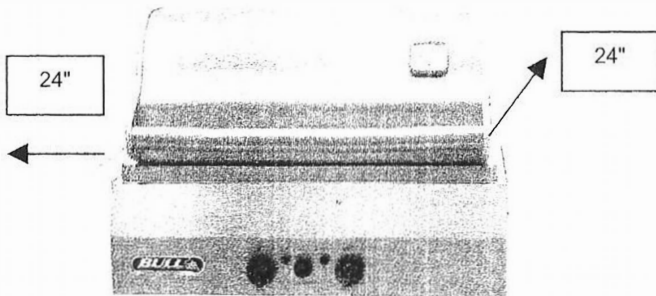

FIGURE 1
THIS APPLIANCE SHOULD NEVER BE PLACED CLOSER THAN TWENTY-FOUR (24) INCHES FROM ANY SIDE OR BACK, TO ANY COMBUSTIBLE CONSTRUCTION OR MATERIAL. (FIGURE 1,2 & 3)
Your Bull Outdoor Products Gas Barbecue can be installed on any flat, stable surface away from any combustible materials or construction. See " CLEARANCES FOR COMBUSTIBLE CONSTRUCTION AND MATERIALS " on Page 4. (SEE FIGURE 1, 2, and 3)
(SEE FIGURE 1, PAGE 5)
Bull Outdoor Products Built-in Barbecues are designed and intended for outdoor use only. Enclosures should be constructed of masonry, and/or other noncombustible materials. See " CLEARANCES FOR COMBUSTIBLE CONSTRUCTION AND MATERIALS " on page 4, and FIGURE 1, PAGE 5.